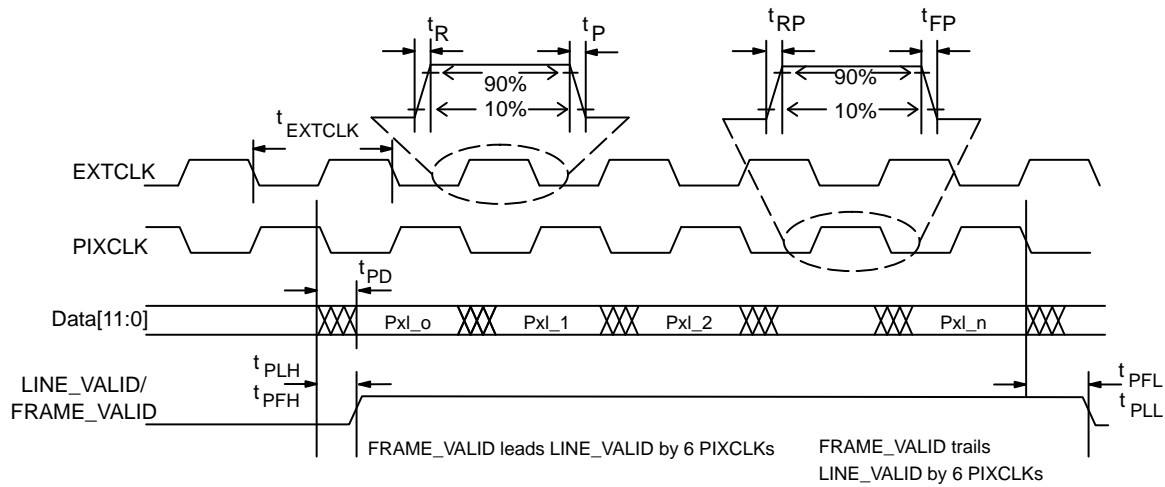

Figure 10. I/O Timing Diagram
See Figure 10 below and Table 6 for I/O timing (AC) characteristics.